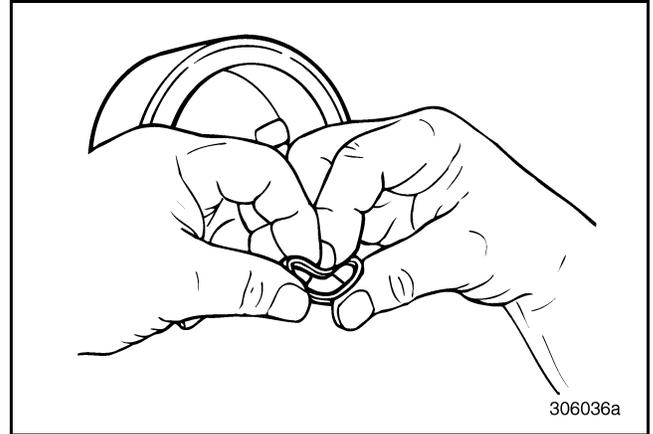

Figure 443 — Forming Teflon® Seal
2. Form the Teflon® seal into a kidney shape as shown in Figure 443.